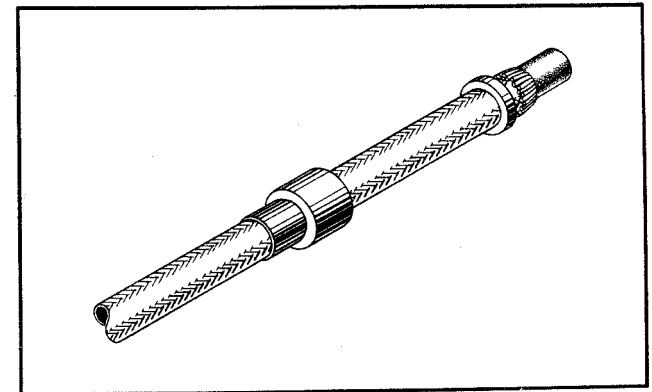

Figure 64
(7) Fold braid back over splicer and smooth. See Figure 64.